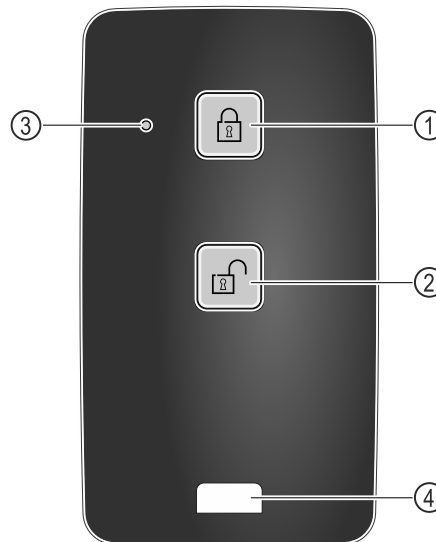

Fig. 219
- (1) Engage lock
- (2) Unlock lock
- (3) Status LED
- (4) Fastening eyelet
- ▶ Press button Fig. 219 (1) on the remote control.
- ▶ Press button Fig. 219 (2) on the remote control.
- ▶ Status LED Fig. 219 (3) provides a visual acknowledgement when you press the button.
- ▶ Eyelet Fig. 219 (4) for attaching remote control, for example, to a key ring.